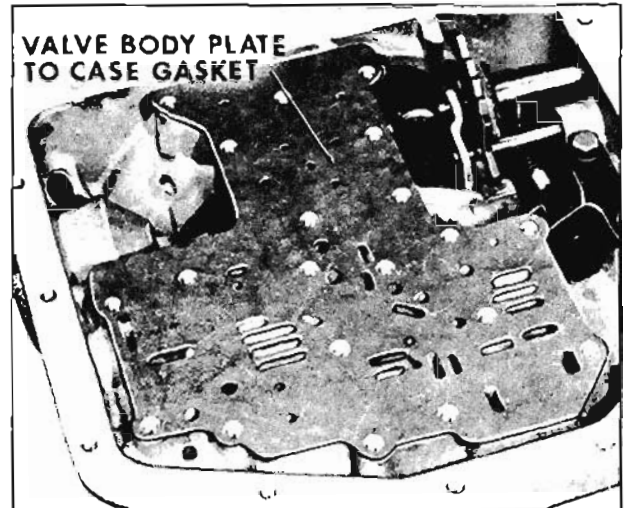

Fig. 6-457 Installing Valve Body Gasket
1. With transmission in horizontal position, install valve body to plate gasket. (Fig. 6-457)